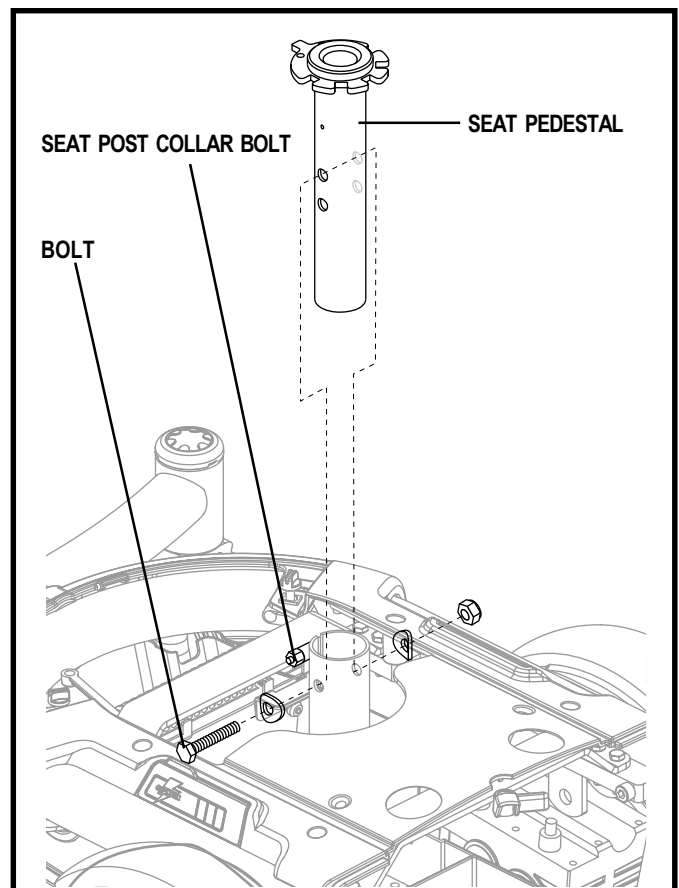

Figure 14. Seat Height Adjustment
8. Loosen the bolt on the seat post collar. See figure 14.